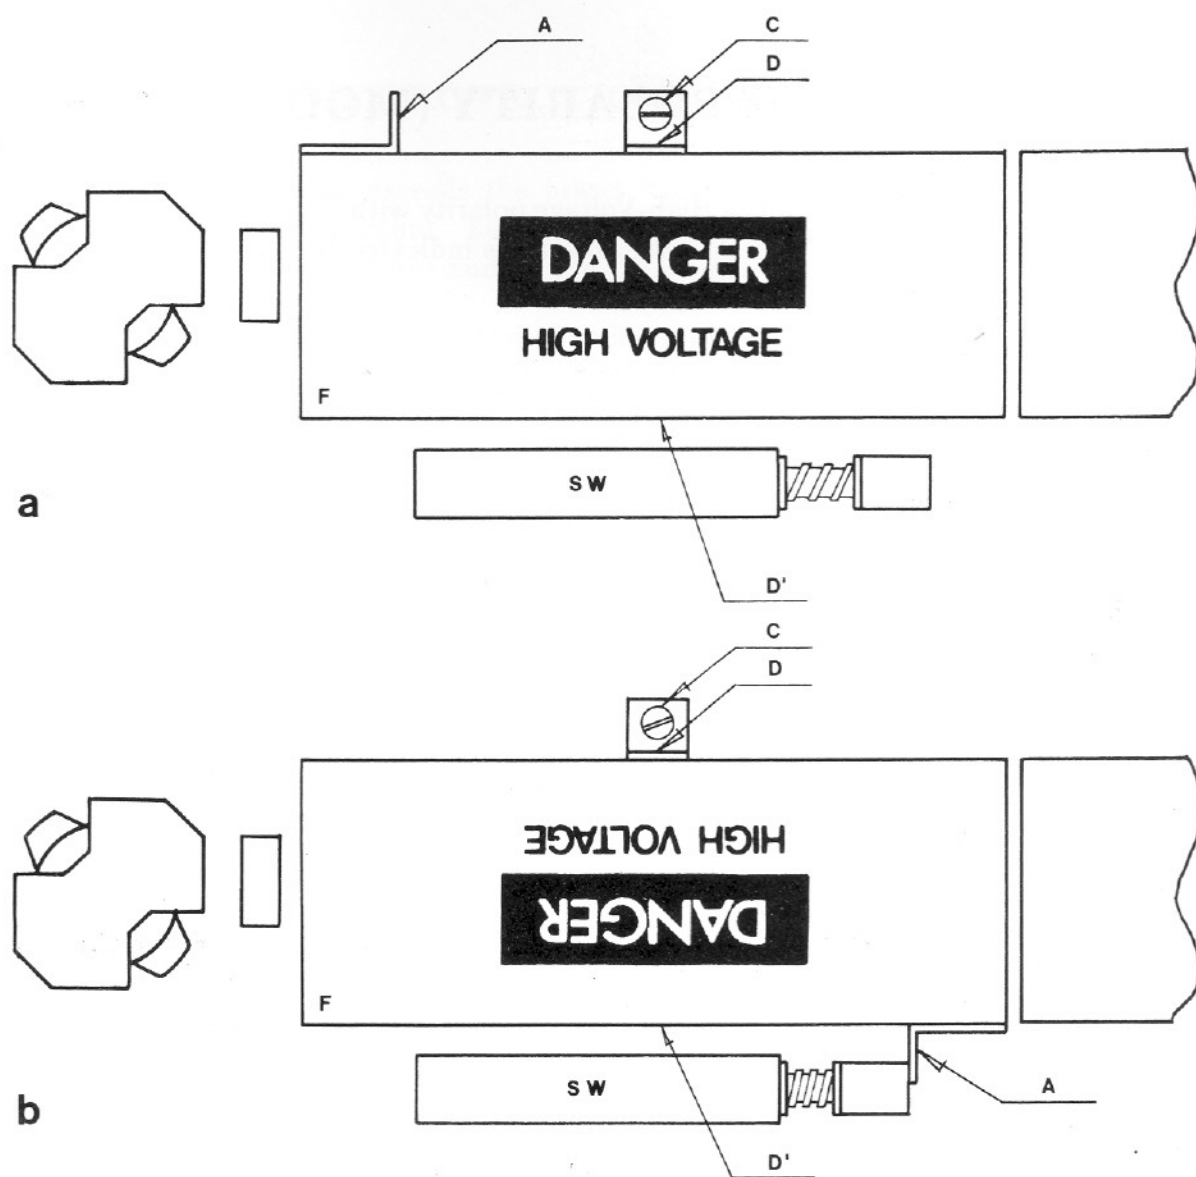

Figure 3: Selection of Polarity
2. Lay the PCB, components side up and refer to Figure 3. As it can be seen, a large, black module (labelled F in the figure) is conspicuous on the Board. This is the High-Voltage multiplier and bears a "High-Voltage Danger" sign. The module has a tongue (labelled A) that, depending on the way module F was inserted, may or may not press the switch SW, thereby determining HV polarity, as shown in figures a) and b). Figure 3 a) shows the POSITIVE polarity configuration (switch released), and Figure 3 b) shows the NEGATIVE polarity arrangement, with the switch SW pressed by the tongue A.